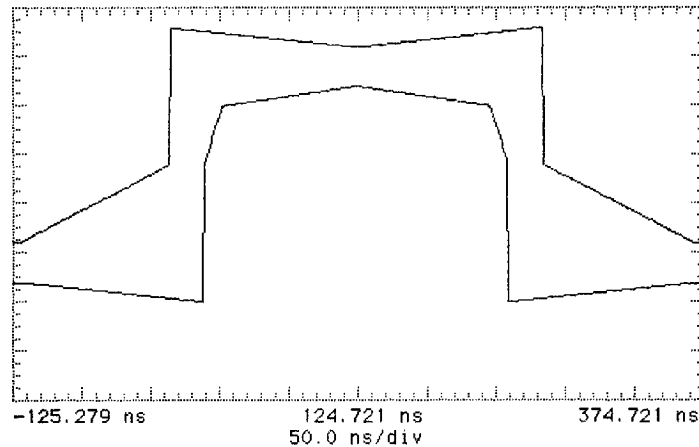

Figure 3-16
23. Press SHIFT **AUTOSCALE** on the oscilloscope to automatically align the pulse to the mask. Verify that the pulse falls within the mask as shown in Figure 3-16.
If your oscilloscope does not have the Mask feature, obtain a printout of the displayed pulse. Place the mask shown in Figure 3-16 over the pulse and ensure that the pulse falls within the mask (a transparent copy of the mask should be used).
27. Adjust the oscilloscope timebase, delay and vertical sensitivity controls to verify that the pulse meets the mask as shown in Figure 3-16. Use the displayed settings as a guide.